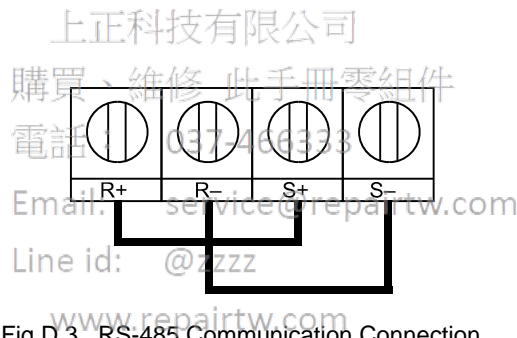

Fig D.3 RS-485 Communication Connection
3. When using RS-485 communication, connect S+ to R+, and S- to R-, on the control circuit terminal board. See Fig D.3 below.